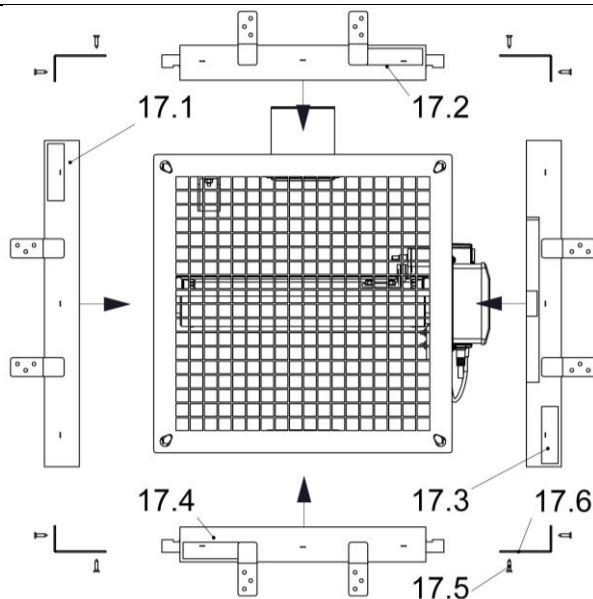

Figure 41: BKA-Ü with ER-A1 installation frame (loose)
If the ER-A1 installation frame has been ordered or delivered loose as a mounting kit, it must be mounted to the BKA-Ü (see Figure 41) following the instructions described below.
- Place the BKA-Ü on the flange of the operator side (BS).
- The two B side and H side parts (pos. 17.1 - 17.4) are positioned around the BKA-Ü housing (pos. 1), as shown in Figure 41.
- They are then screwed together with the supplied corner angles (pos. 17.6) and the corresponding countersunk screws (pos. 17.5) in the corner area.